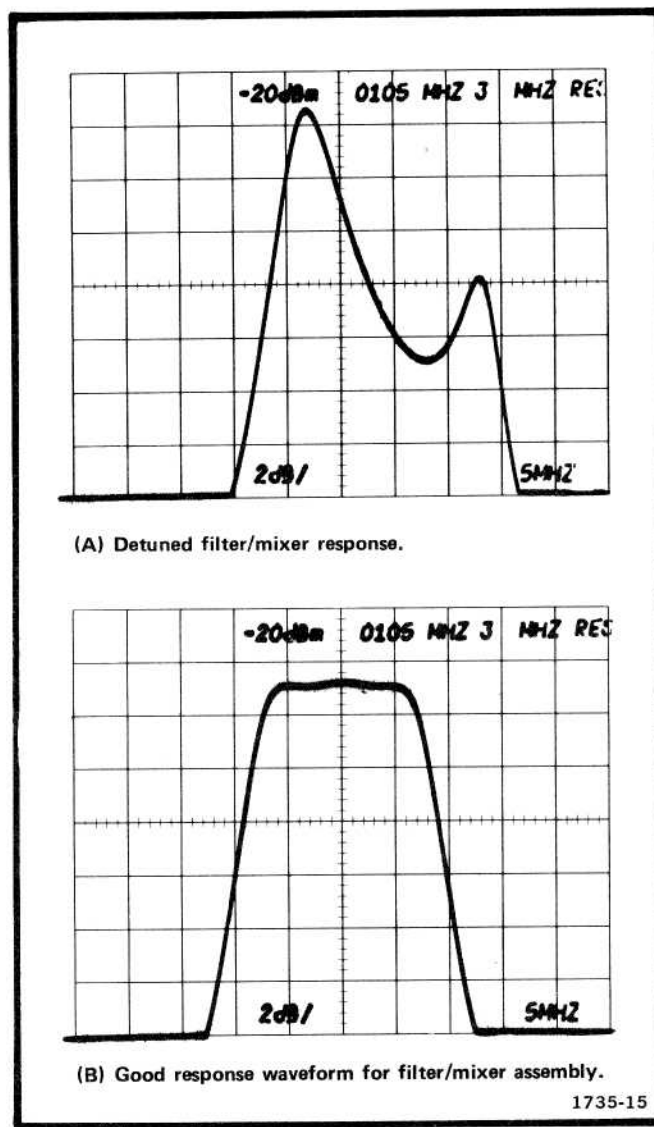

Fig. 6-10. Typical response characteristics of the filter/mixer assemblies.
j. Adjust the four cavities and the mixer coupling for the best flat-top bandpass response. Keep the response centered at the reference frequency as you adjust and be very careful to not lose the signal. Typical responses are shown in Fig. 6-10.